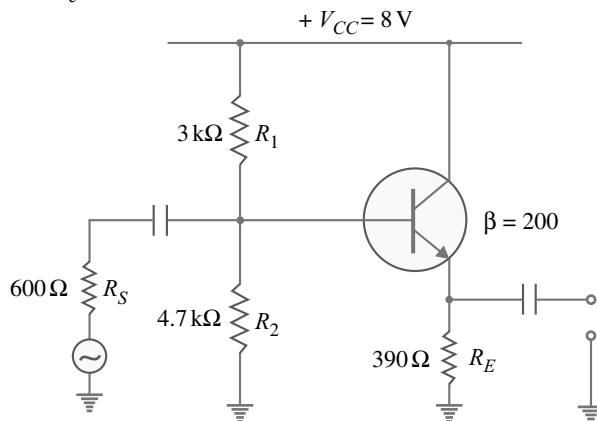

Fig. 11.36
**Example 11.30.** Determine the output impedance of the emitter follower shown in Fig. 11.36. Given that  $r'_e = 20\Omega$ .